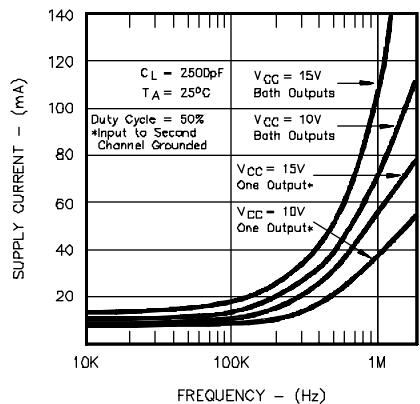

FIGURE 11. SUPPLY CURRENT VS. FREQUENCY
1. From Figure 11, the average driver current consumption under these conditions will be 18mA, and the power dissipation will be 15volts x 18mA, or 270mW.